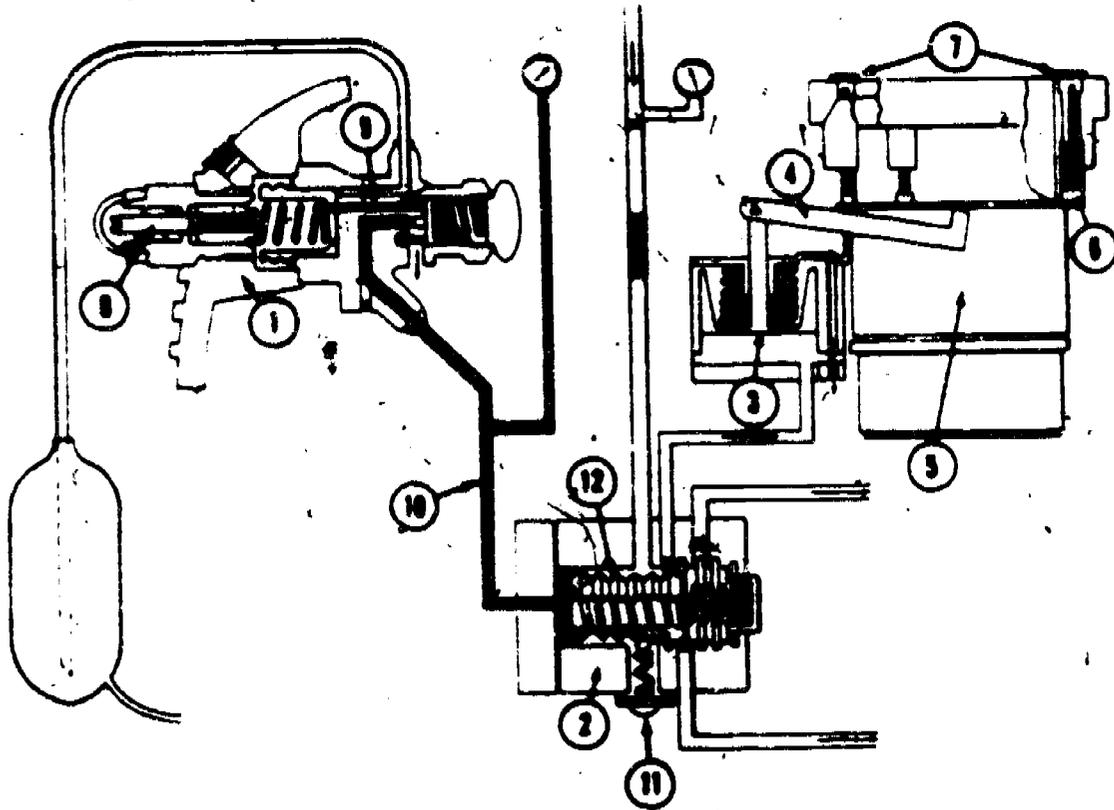

Figure 26. Cylinder Unloader Circuit
**OPERATION.** The operation can be traced in Figure 26. The pressure from the crankcase is led through a surge chamber which changes the pulsating pressure to a stabilized oil flow to the capacity control valve (1). As the increase of pressure enters the valve, an internal bellows is expanded; and the push rods attached to the needle and seat assembly pull the needle toward the seat. This action increases the control oil pressure. The increase of pressure in the crankcase is also passed through the oil pump to the hydraulic relay (2). **NOTE:** This pressure is true oil pressure plus suction pressure. The increased oil pressure will bleed through the port in the end of the relay piston and force the piston to move one notch against the ball and spring assembly for each increase of 2 psi. For each increase of 2 psi, the repositioning opens a port leading to an unloader power element (3). **NOTE:** There is one less cylinder unloader power element than total number of cylinders; this means that one cylinder will be fully loaded at all times.